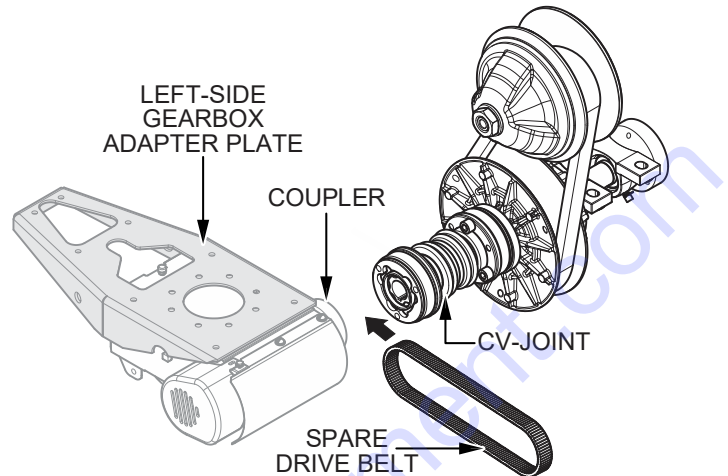

Figure 38. Spare Drive Belt Routing
4. Slide the new spare drive belt between the gearbox coupler and CV-joint (Figure 38).
5. Mount the new spare drive belt and cover (Figure 38) onto the left-side gearbox. Reinstall the two bolts that secure the spare belt holder to the left-side gearbox adapter plate.